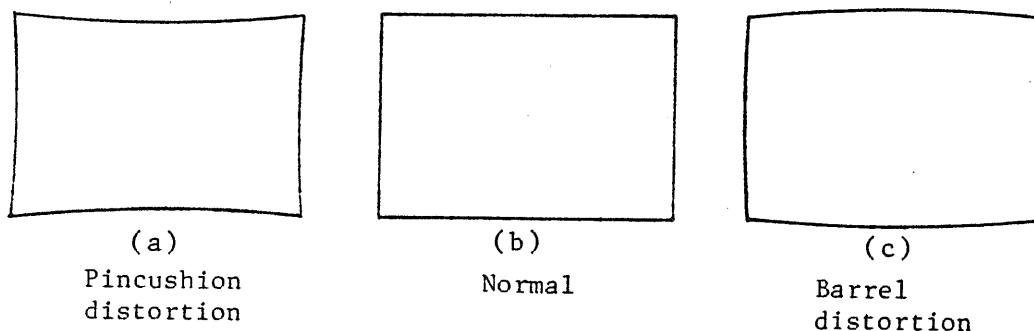

Figure 31
- (1) Apply a sinusoidal signal of approximately 50 kHz to the vertical axis in the single-channel mode and display the signal with an amplitude of 8 DIV and with approximately 50 peaks.
- (2) So adjust the GEOMETRY control (Figure 28, VR704) that the displayed pattern becomes as (b) in Figure 31.